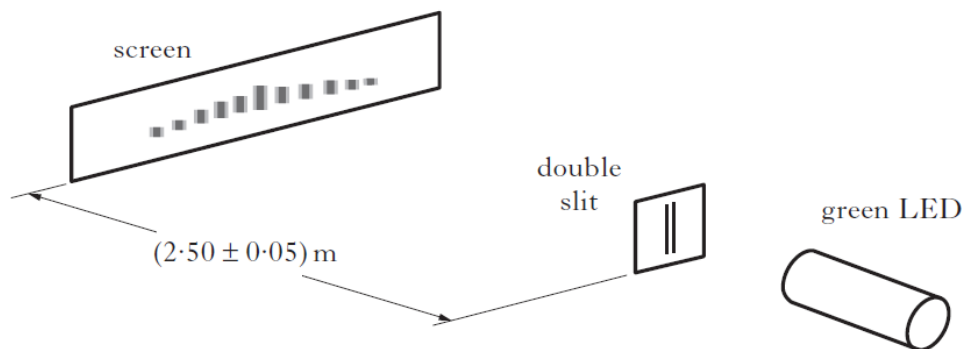

Figure 9
9. A series of coloured LEDs are used in the Young's slit experiment as shown in Figure 9. The distance from the slits to the screen is $(2.50 \pm 0.05)\text{m}$. The slit separation is $(3.0 \pm 0.1) \times 10^{-4}\text{m}$.